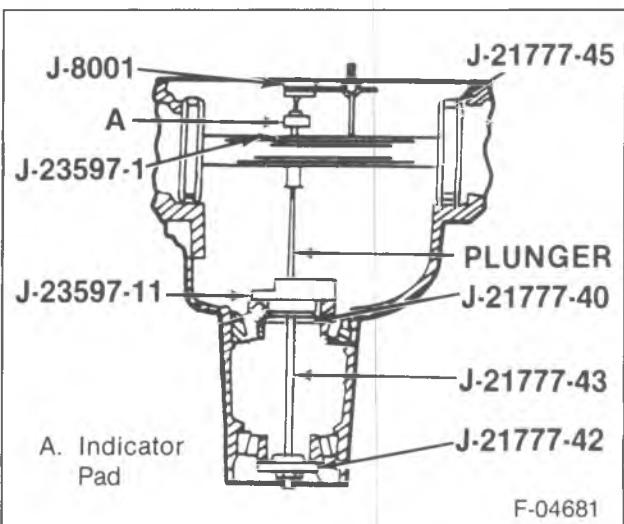

Figure 9—Pinion Depth Tools
PINION DEPTH ADJUSTMENT (Figure 9)
3. Place the bearings (15) and (18) into the pinion bearing cups.
4. Install J 21777-40, J 21777-42, J 21777-43 and J 23597-11 to the pinion bore (figure 9).
8. Assembly J 21777-45, J 23597-11, and J 8001 to the differential bearing bores as shown in figure 9.